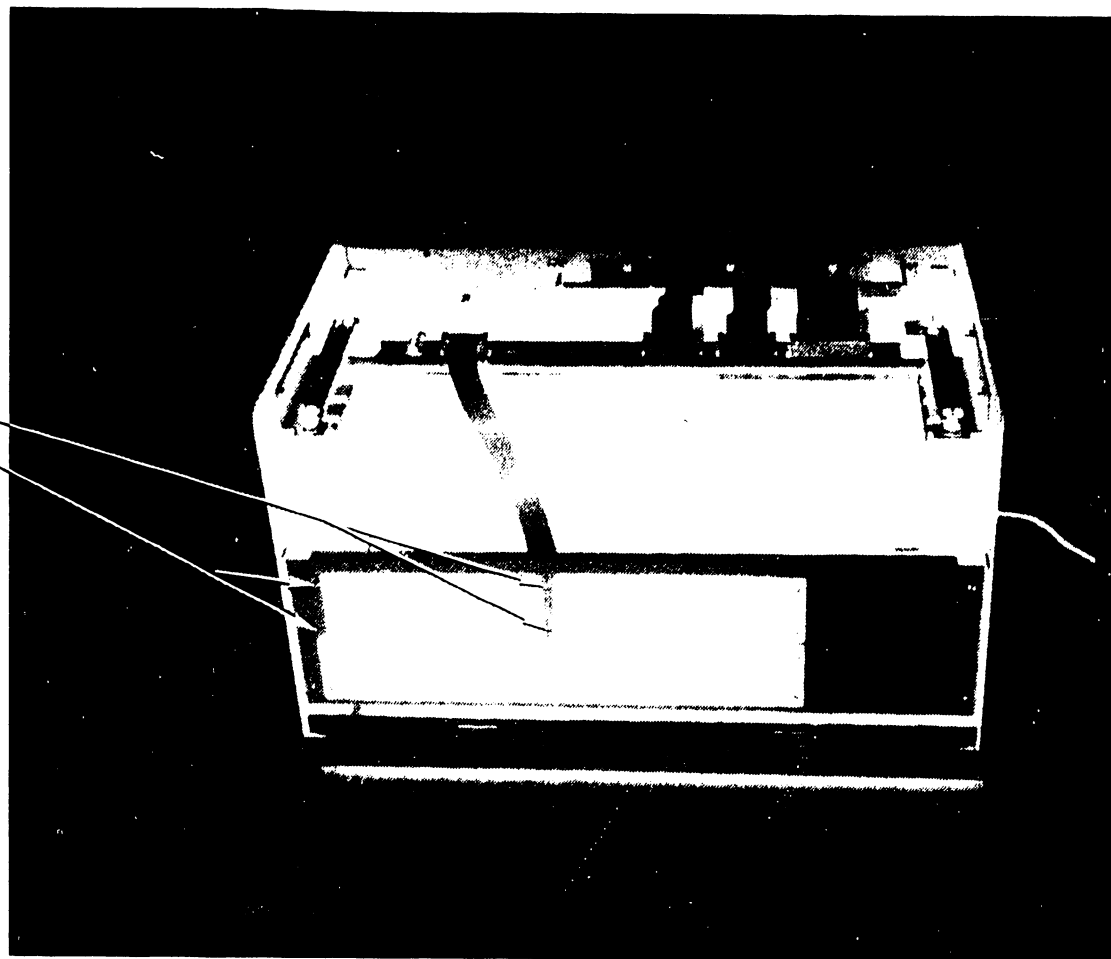

FIGURE 3-8 TCP (FRONT VIEW, COVER REMOVED)
- c. Unsrew the four phillips-head screws that secure the Light Board to the front of the unit (see figure 3-8).